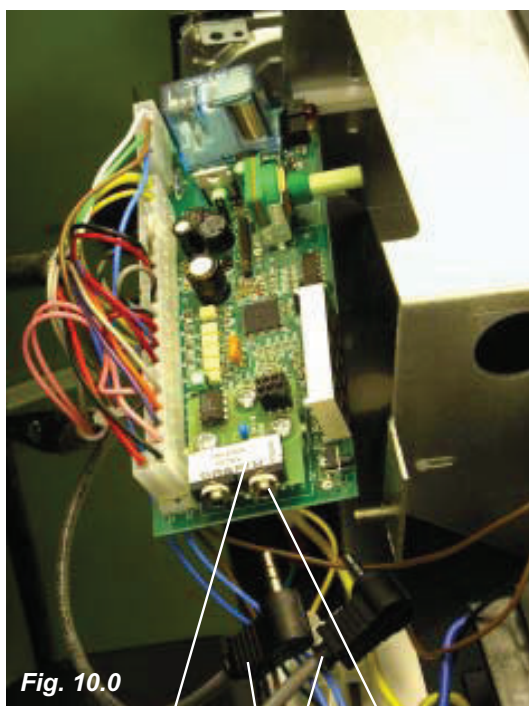

Fig. 10.0
- Remove Pool Thermostat Board by removing retaining plate and carefully slide out until fully accessible. (**Fig. 10.0**)
- Carefully fit the Adapter PCB in the space behind the Pool Temp. Display on the Board (**Fig. 10.0**) ensuring that the six pins on the Board pass through the underside of the Adapter PCB and, that the plastic locking pillars snap into place. Refit Pool Thermostat Board and Knob.